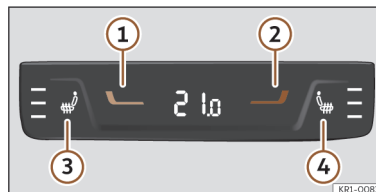

Fig. 104 In the centre console, rear section: controls for the rear seats.
- Press buttons  and  >>> **Fig. 104** to adjust the temperature of the rear zone.
- Tap buttons ③ and ④ on the rear seat controls located at the back of the centre console >>> **Fig. 104.**